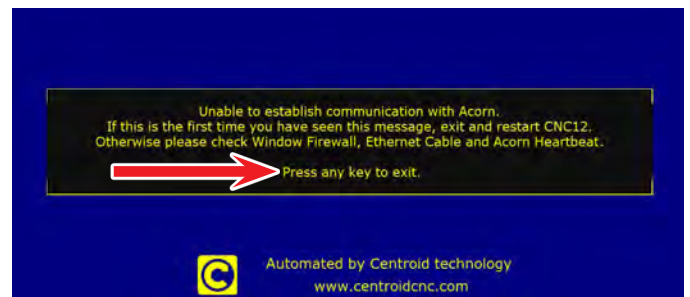

FIGURE 20
24. Sometimes you will get the message below. Press any key to exit. Power off the controller. Power on the controller. Wait a few seconds. Double-click on the CNC12 icon again (see Figure 20).